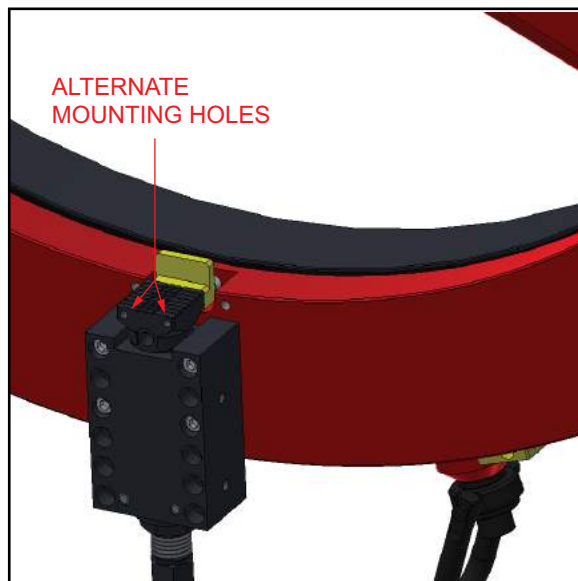

FIGURE 3-4. ALTERNATE MOUNTING HOLES
- Install the setup fingers on the back of the flange, on the “bottom” of the leveling feet (see Figure 3-4).
- Install the setup fingers on the back (top) of the flange, on the “bottom” of the leveling feet (see Figure 3-4).